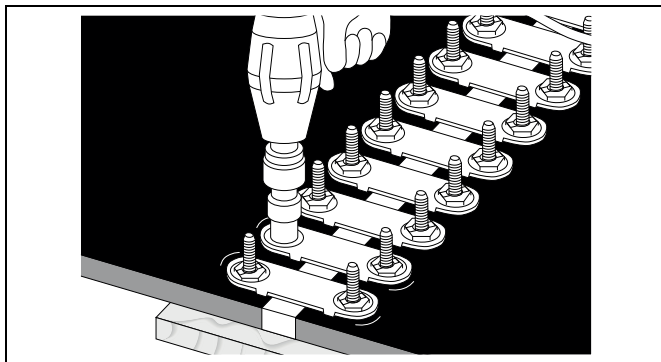

Figure 4M
10. Tighten all fasteners from **EDGES to CENTER**. Tighten all nuts uniformly. The Flexco Power Tool Wrench used with an impact tool will speed this step considerably. *(See Figure 4M.)*